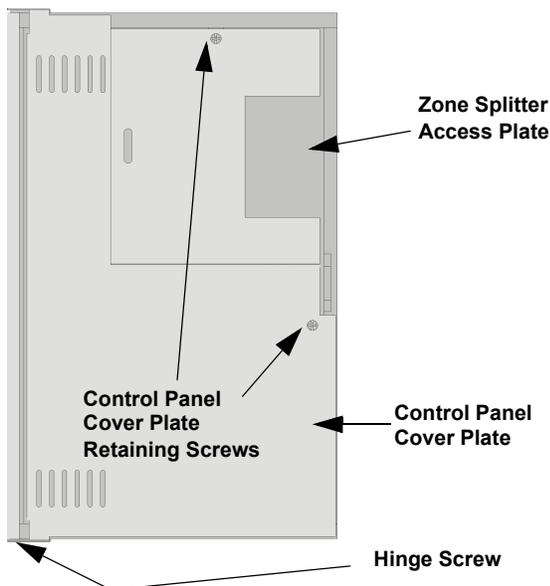

Figure 1: View of Cabinet With Cover Plate in Place
2. Remove the two cover plate retaining screws, then open the control panel cover plate. See Figure 1.